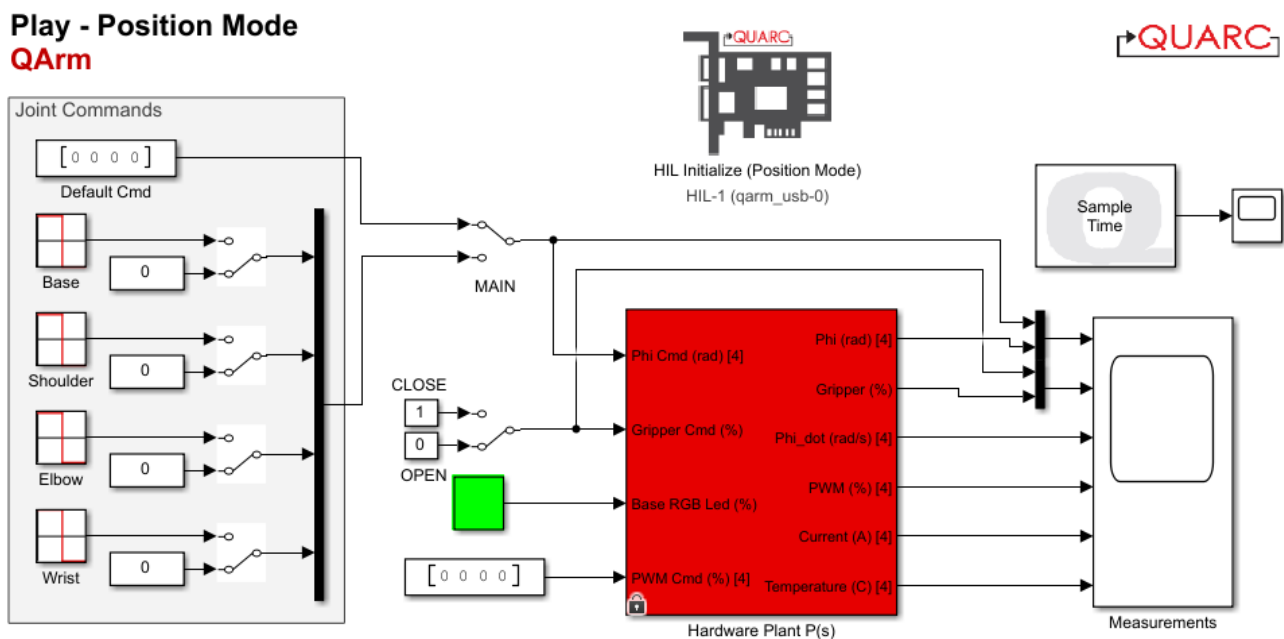

Figure 1: Simulink model that controls the QArm in position mode
1. Open the Simulink model play\\_position\\_mode.slx (Figure 1). You will use the model to apply position commands to the base, shoulder, elbow, and wrist joints, in addition to controlling the gripper. The model also acquires and displays a variety of sensor feedback.